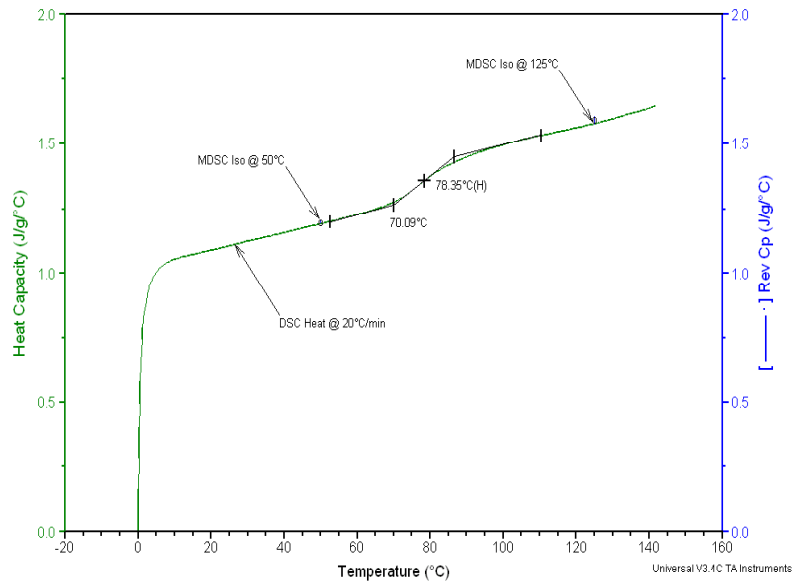

Figure 4 - DSC and MDSC[®] Heat Capacity Versus Temperature for Polyethylene Terephthalate
Figures 1-3 show the data plotted versus time for the first run in each series. Figures 4 and 5 show the same data plotted versus temperature for the polyethylene terephthalate (PET) and polyethylene (PE) samples, respectively. The glass transition can be seen in PET and melting in PE.